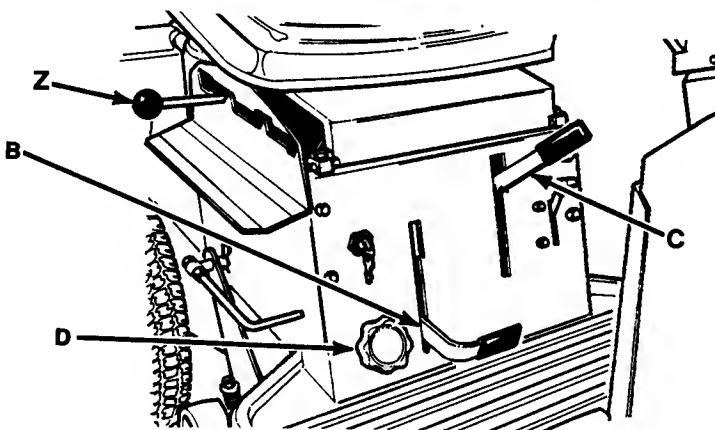

Fig. 32
4. Make sure that no one is in the path of discharge or close to the mower. Slowly engage the mower blade by moving the mower blade drive lever (C, Fig. 32) up to its ENGAGED position.
5. Lower mower lift lever (B, Fig. 32) to the lowest (DOWN) position, to position mower deck for cutting.
6. Select the gear you want by moving the transmission shift lever (Z, Fig. 32) to the
Twist the mower height adjusting knob (D, Fig. 32) or clockwise to raise the mower (higher cut), counter-clockwise to lower the mower (shorter cut). A good cutting height to begin with is 2-1/2".